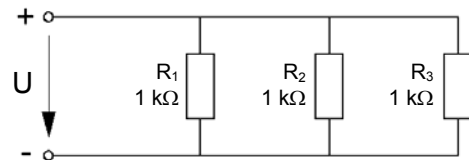

Fig. 3.8.3.2: Parallel circuit of three  $1\text{ k}\Omega$  resistors
- What is the power dissipation of the circuit in Fig. 3.8.3.2, when the input voltage applied is  $15\text{ V}$ ? For the calculation, use only voltage and resistance.
- Assemble the circuit of Fig. 3.8.3.2 on the Board. Use the fixed voltage source of  $U = 15\text{ V}$ . Measure the currents in the resistor branches  $R_1$  to  $R_3$ . Calculate the total current.